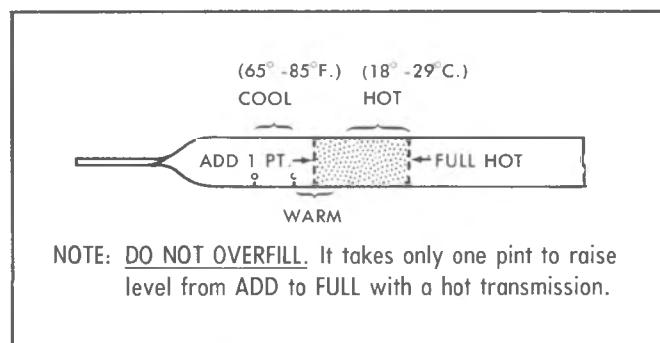

Fig. 0B-1--Automatic Transmission Dipstick
- If the fluid feels cool, about room temperature 65°F to 85°F the level should be 1/8 to 3/8 inch below the **ADD** mark. The dipstick has two dimples below the "ADD" mark to show this range (fig. 0B-1).